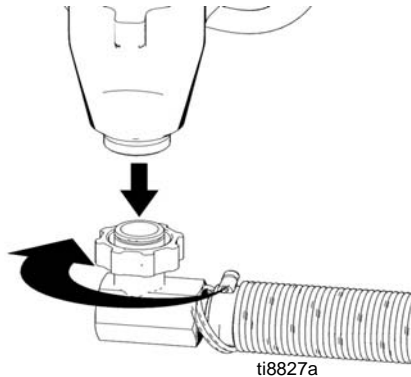

FIG. 13
- 3 (Fig. 13) Remove suction hose (114).